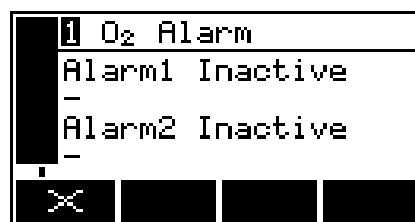

Figure 30 – The alarm status screen
1. On the measurement screen, press the  soft key; the alarm option screen (Figure 30) will then be displayed.
2. In the alarm status screen shown in Figure 30, both measurement alarms are shown as 'Inactive'; that is, either the mode of each alarm is set to 'none', or no alarm condition currently exists.